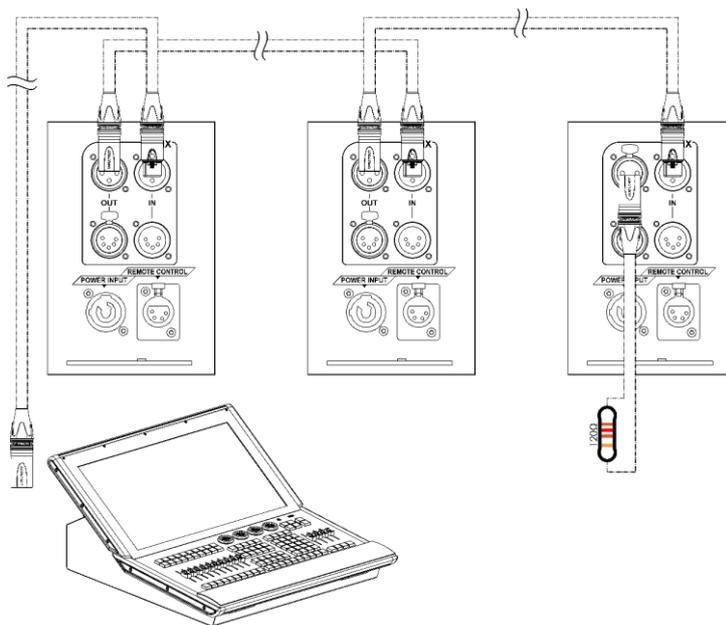

Fig. 13
- 04) Link the units as shown in Fig. 13. Connect a DMX signal cable from the first unit's DMX "out" socket to the second unit's "in" socket. Repeat this process to link the second, third, and fourth units.